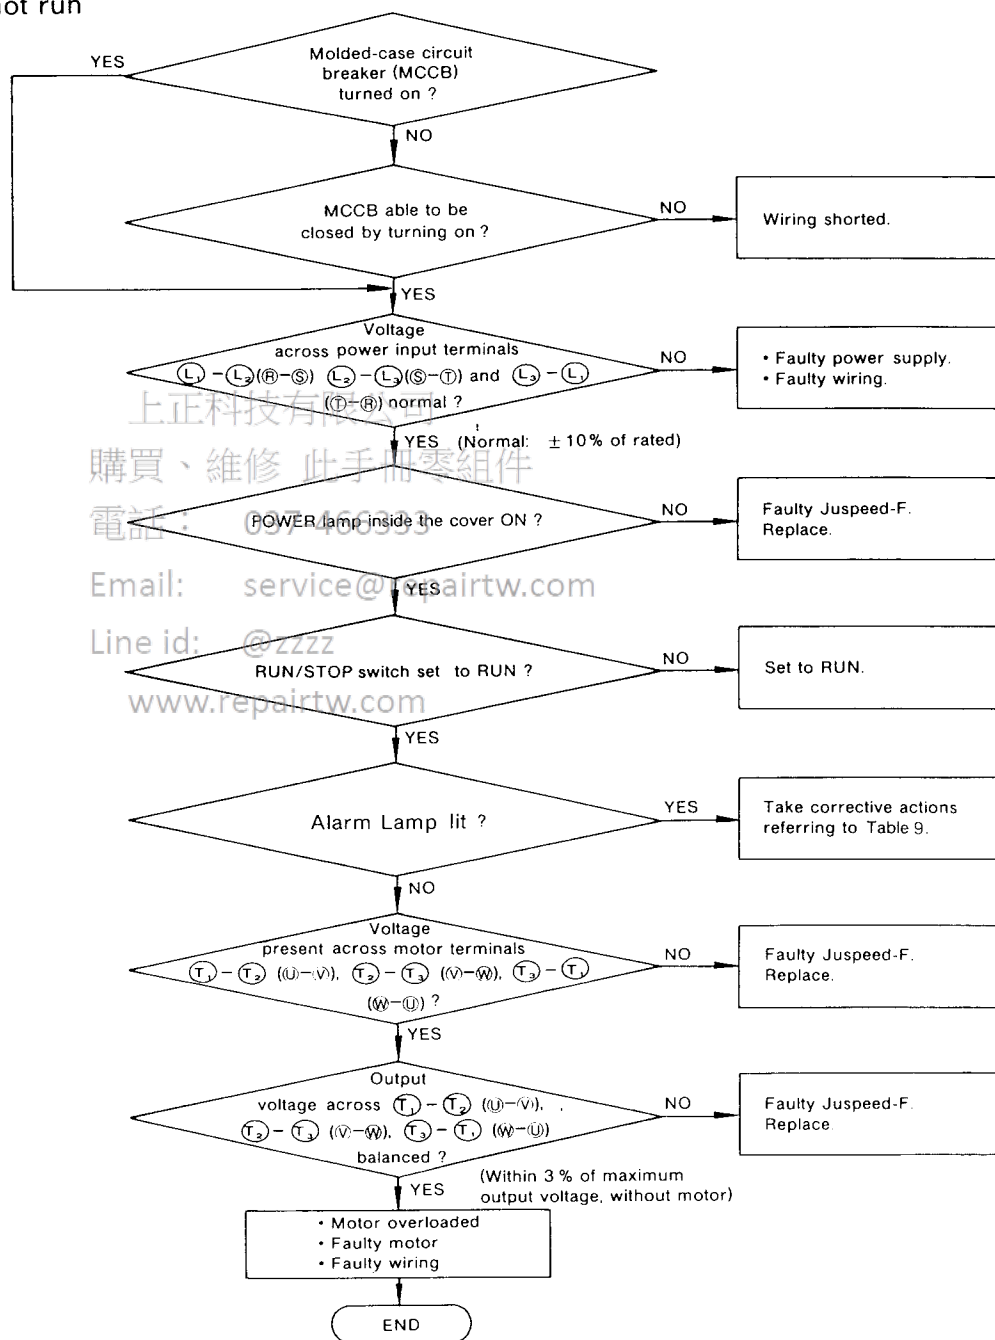

Fig. 12 Motor will not Run
Connect the AC main circuit terminals  $\text{L1 (R)}$ ,  $\text{L2 (S)}$ ,  $\text{L3 (T)}$ ,  $\text{T1 (U)}$ ,  $\text{T2 (V)}$ , and  $\text{T3 (W)}$  by a common wire as shown in Fig. 12. After that, measure the insulation resistance between the common wire and ground with a megger. If reading is above  $1\text{M}\Omega$ , it is considered satisfactory. Never measure the insulation resistance of the control circuit.
If Juspeed-F malfunctions, find the cause and take the corrective actions by following the flowcharts given in Figs. 12 to Fig. 14.